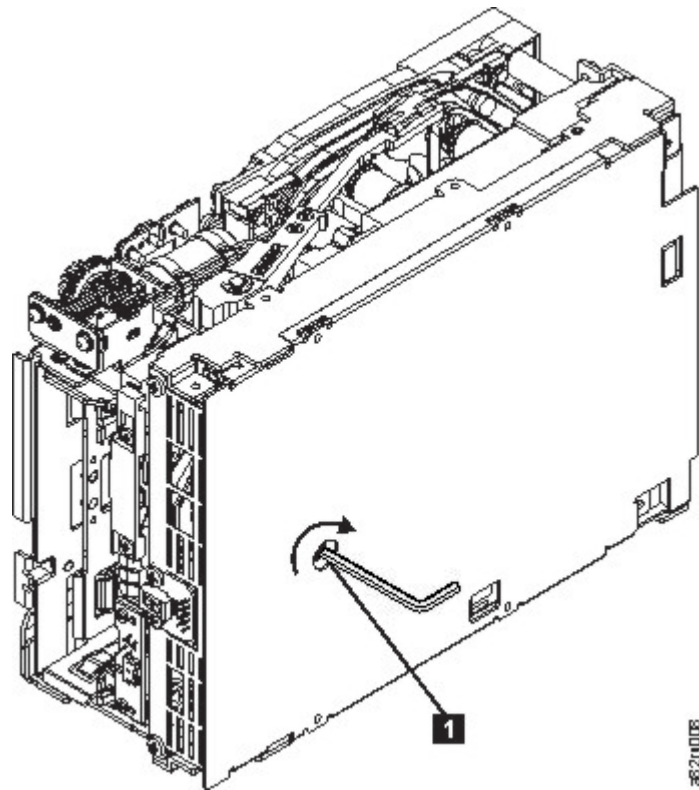

Figure 117. The hex wrench rewinds tape into cartridge
2. From the bottom of the drive, locate the access hole (1 in Figure 117 on page 193).
Note: Be sure to keep tension on the tape as the LBA is drawn into the cartridge by using a hex wrench as shown in Figure 117 on page 193.